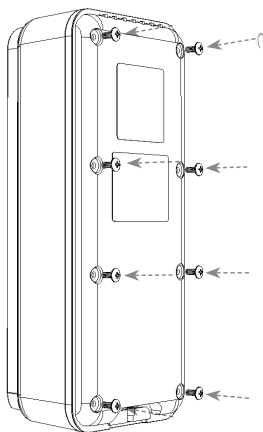

Figure 3-15 Put the EZ-Swap Faceplate On
Step 3: Carefully put the faceplate back on and tighten the 8 screws that were removed in a previous step (section 3.3 – step 2), as shown in **Figure 3-15**.